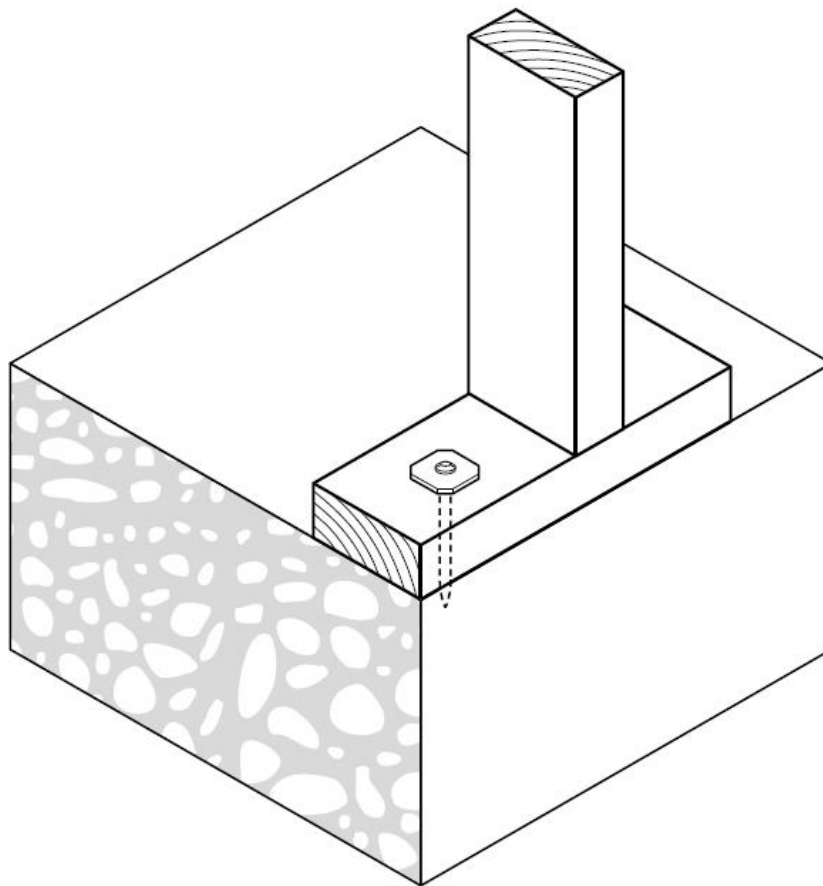

Fig. 16
B. Fastening relatively soft material (wood, insulation, etc.) permanently to steel (Figs. 16 , 17, 18).